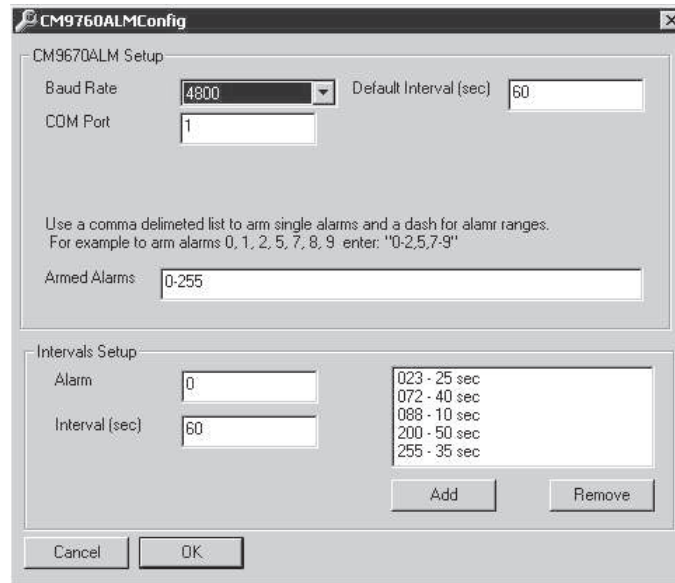

Figure 94. CM9760 Alarm Configuration Dialog Box
- Add intervals for specific alarms. Figure 94 shows five different intervals for five different alarms.